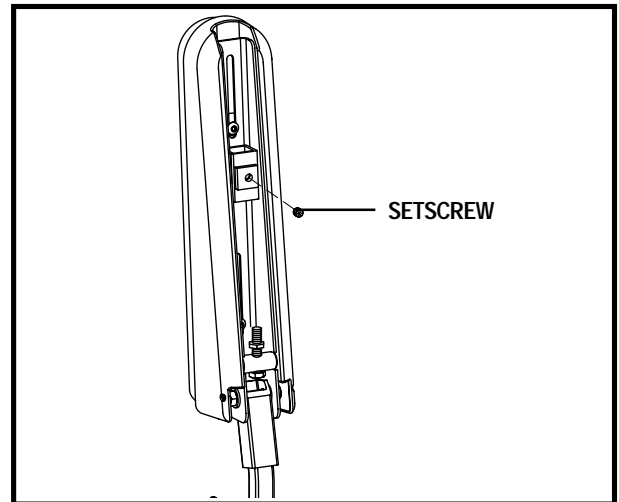

Figure 24. Underside of Armrest
2. Loosen the setscrew on the controller bracket. See figure 24.
4. Flip up the armrests and loosen the setscrews. See figure 24.